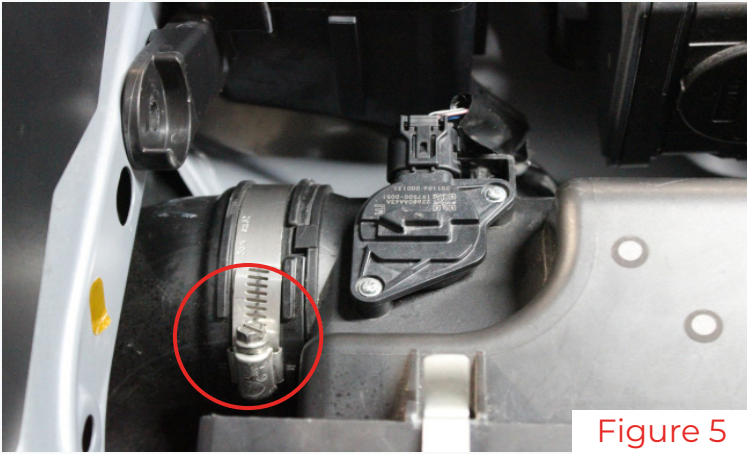

Figure 5
5. Loosen the worm clamp attaching the factory airbox to the intake tube. Remove the air box (Figure 5).